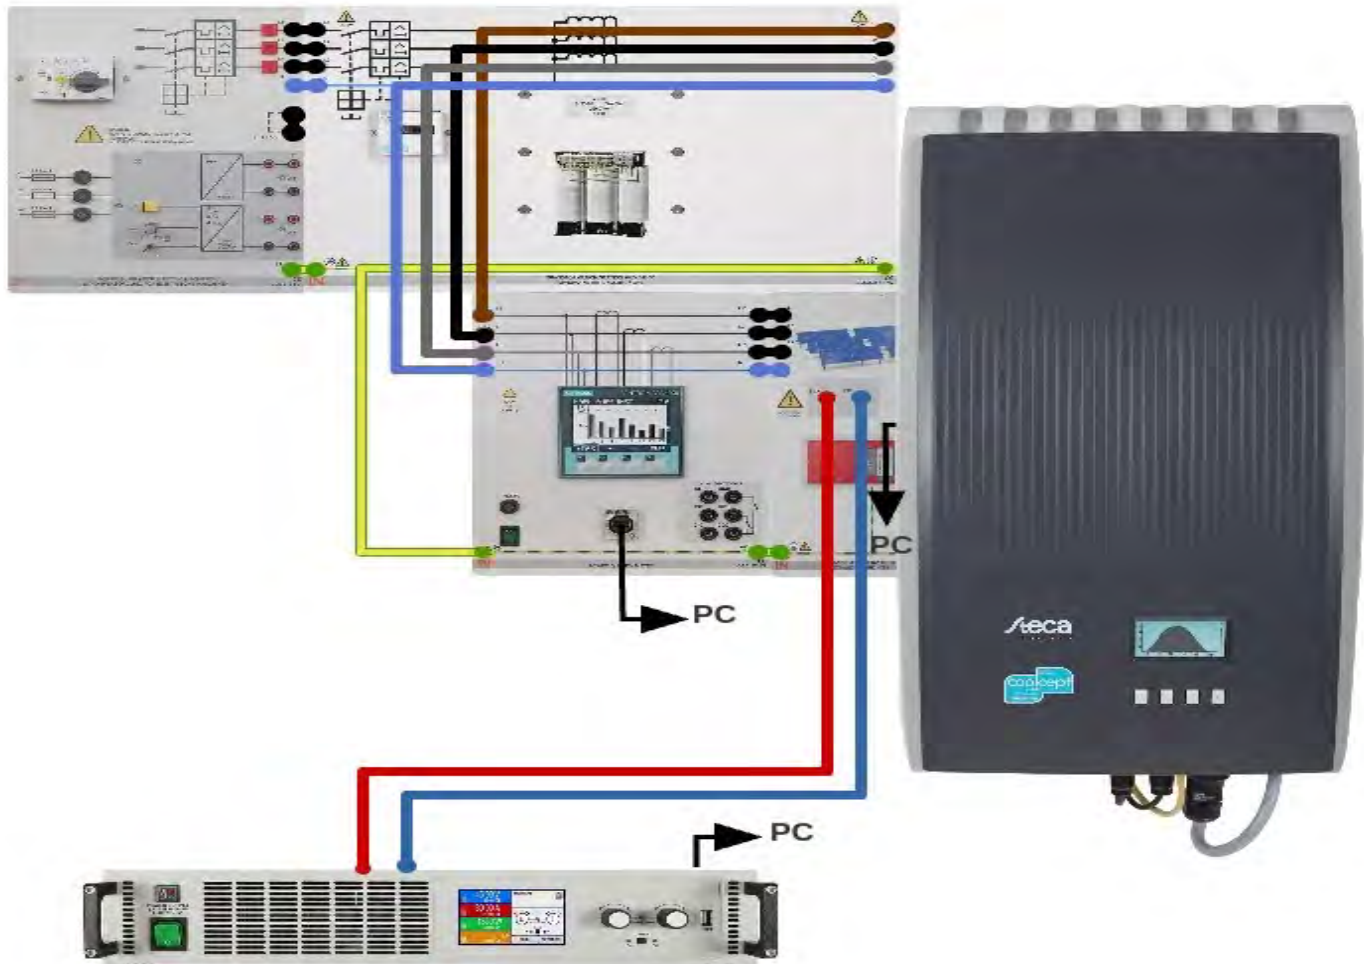

Figure 1
1. Assemble the circuit in accordance with the layout and wiring diagram of Figure 1.
1. Keep the circuit in accordance with the layout and wiring diagram of Figure 1.